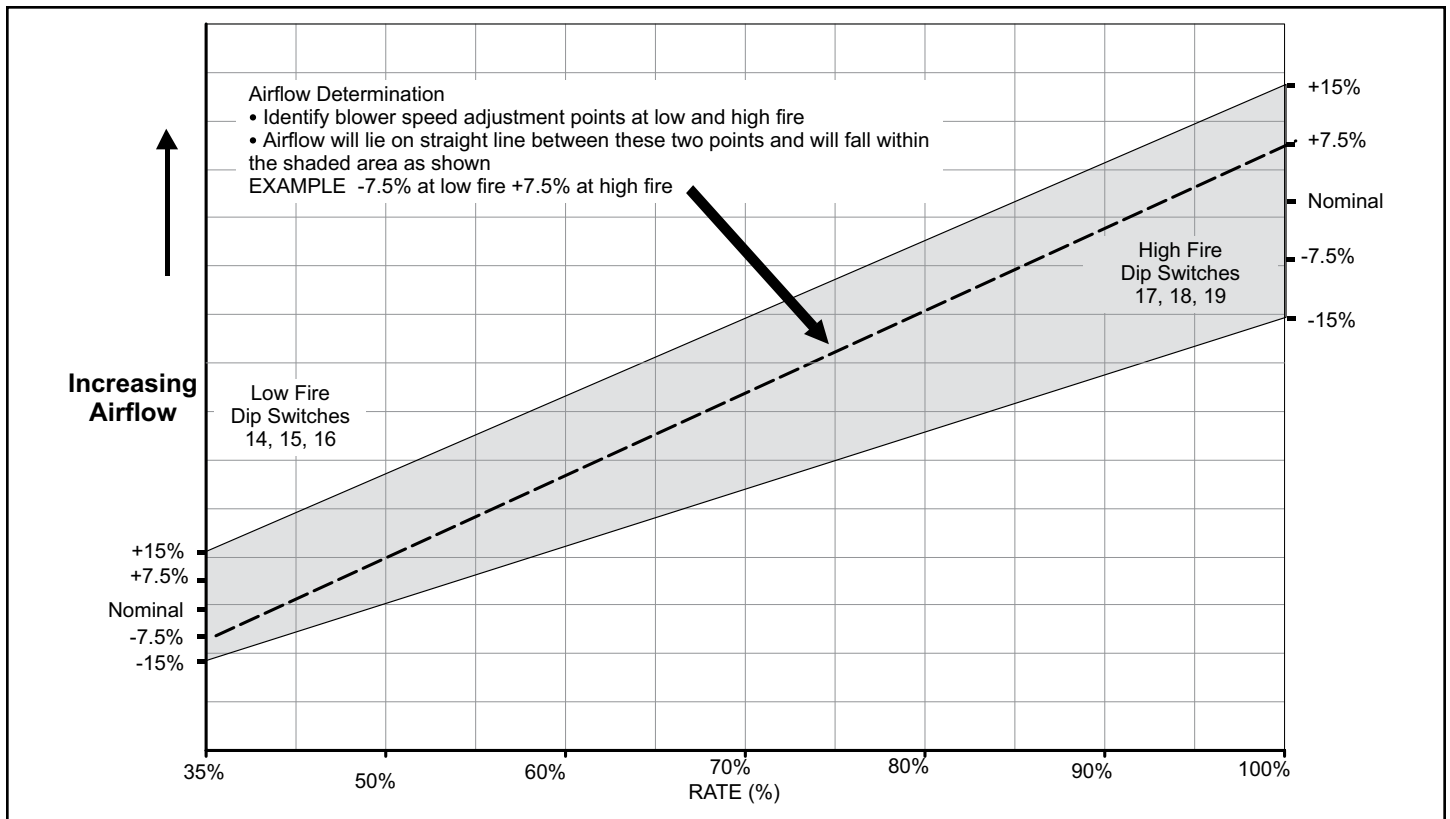

Figure 6.
-- Switches 14 through 19 are used to select heating mode blower motor speeds. These switches are factory set at the OFF position which provides 100 % of normal speed during HIGH HEAT demand, 70% of normal speed during MIDRANGE HEAT demand and 40% of normal speed during LOW HEAT demand. Switches 14, 15 and 16 are used to adjust the LOW FIRE blower motor speed. Switches 17, 18 and 19 are used to adjust the HIGH FIRE blower motor speed. Figure 6 and Table 8 and Table 9 provides the heating mode blower speeds that will result from different switch settings. Figure 6 indicates the effect the DIP switch settings have upon the heating airflow at various furnace firing rates.